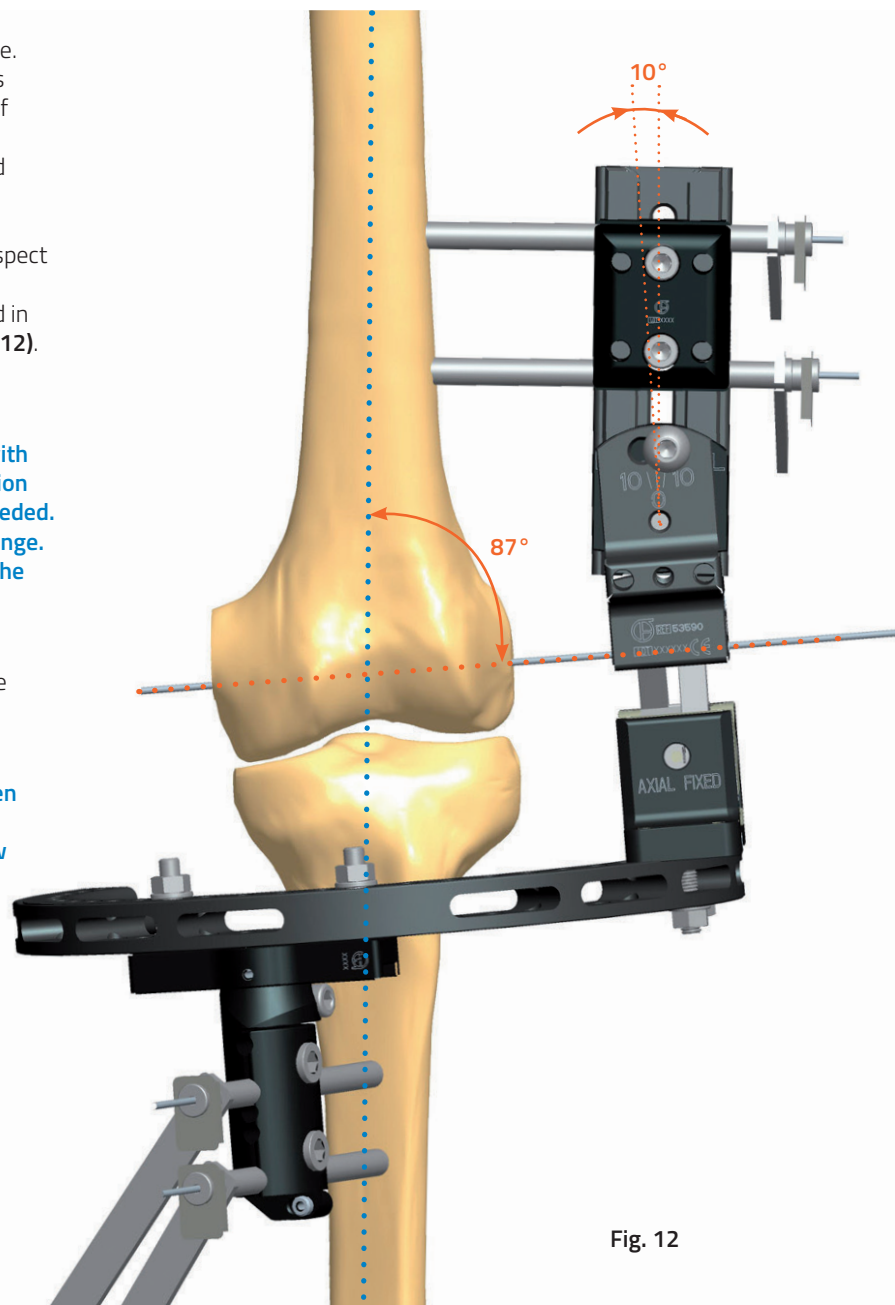

Fig. 12
- Insert 2 wire guides into the screw guides positioned in the screw seats 2 and 5 of the Sheffield Clamp (Fig. 12). Insert the wires.